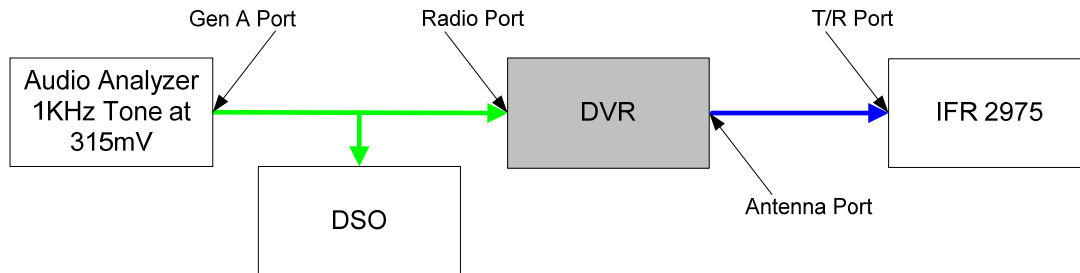

Figure 7: Transmitter THD+N and SINAD Block Diagram
2. Cable up the IFR 2975 to the DVR's antenna port, as shown in Figure 7.
1. Cable up the HP 8903B to the baseband audio port of the DVR. Then cable the receive port of the DVR to the RF transmission port on the SMIQ signal generator. See Figure 7.